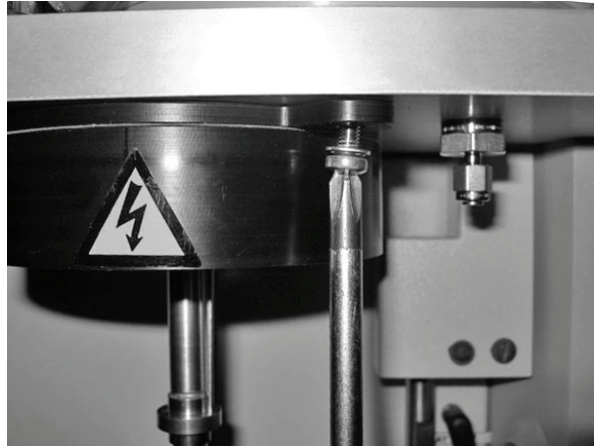

Figure 50 Loosening the plastic ionizer
5. Using a screwdriver, remove the two Phillips screws securing the plastic ionizer (Figure 50).